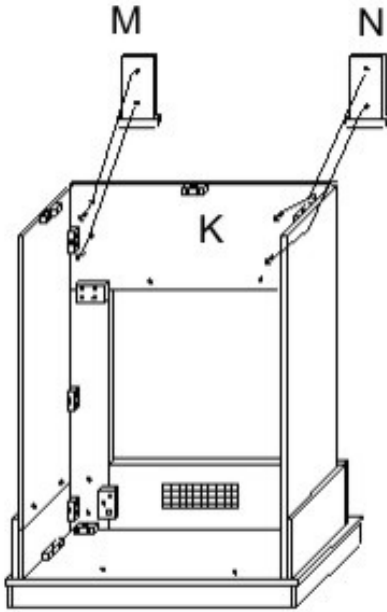
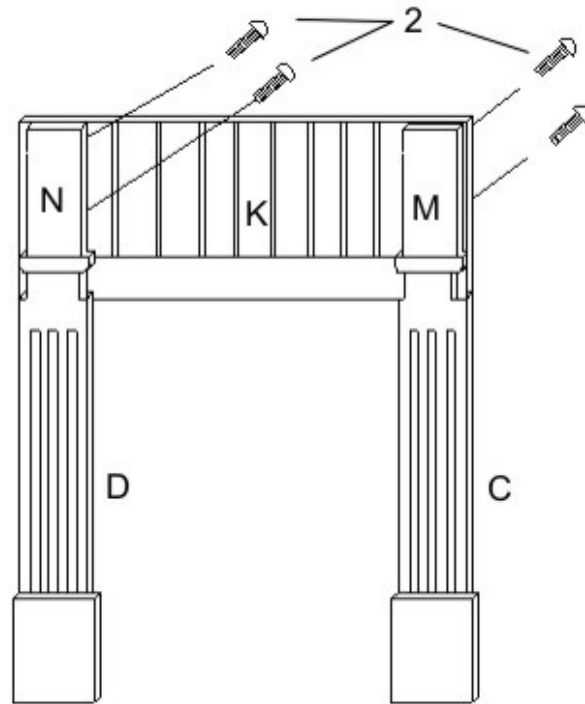

Fig. 10
Fig. 11
**Step 11:** Attach Decorative LEFT & RIGHT FRONT UPPER PANELS (M, N) to FRONT UPPER PANEL (K) with 4 KD SCREWS (2). See Fig.10 and Fig.11.